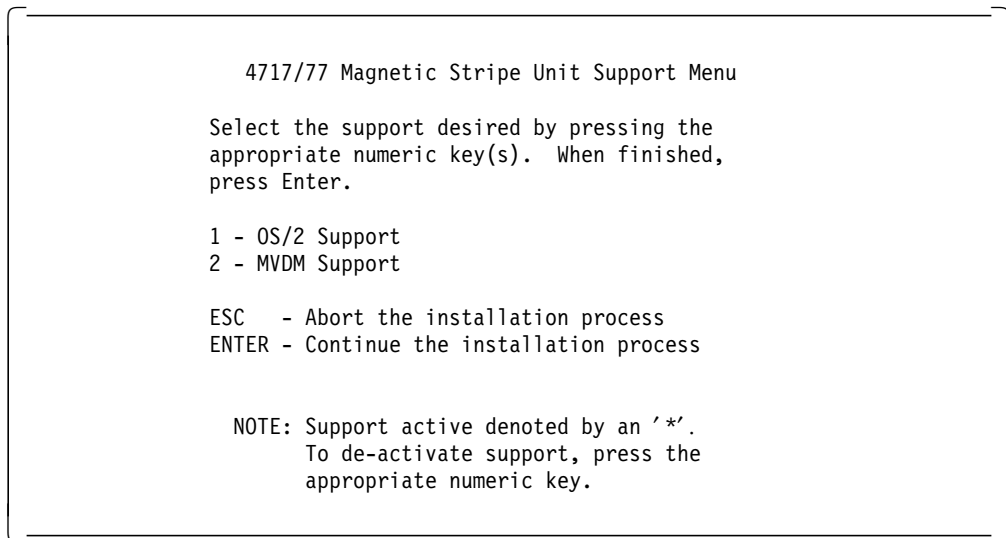

Figure 69. OS/2 and MVDM Support Menu
2. After selecting the desired option press Enter and Figure 69 on page 122 will be displayed.
As shown in Figure 69, you need to select the desired option: